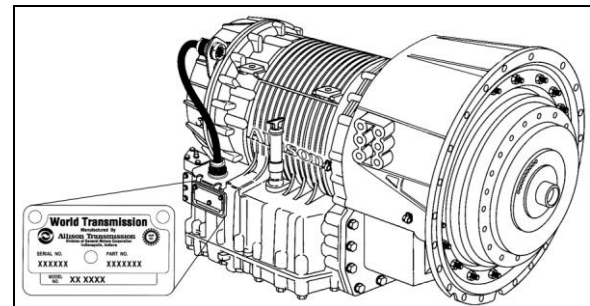
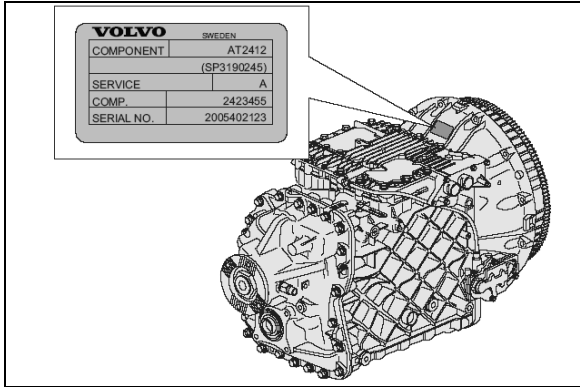

FIGURE 2: ALLISON TRANSMISSION 07076
FIGURE 3: I-SHIFT TRANSMISSION
The transmission identification plate is located on the oil level dipstick side of the transmission (WT) or on transmission (I-Shift) (Figure 2 & Figure 3). The identification plate shows the transmission serial number, part number (assembly number), and model number. Use all three numbers when ordering parts.